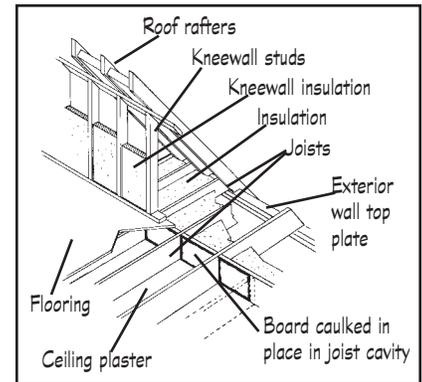

Figure 22a
**Situation 1.** The area behind the knee wall is accessible through a door, and there is subflooring behind the wall. To address this area, you will have to cut and pull up the subflooring just behind the knee wall. Then cut pieces of gypsum board or rigid board insulation for blocking to fit snugly between the floor joists below the knee wall. (Figure 22a and 22b) Fit the blocking in place and then caulk all four edges for tight seal. The top edge is easier to caulk if the blocking is not pushed all the way under the knee wall. Then, if the area has not been insulated, you can blow in insulation under the floor boards in the area behind the knee walls. Be sure to weatherstrip and latch the access door so that warm air won't filter into the cold space.